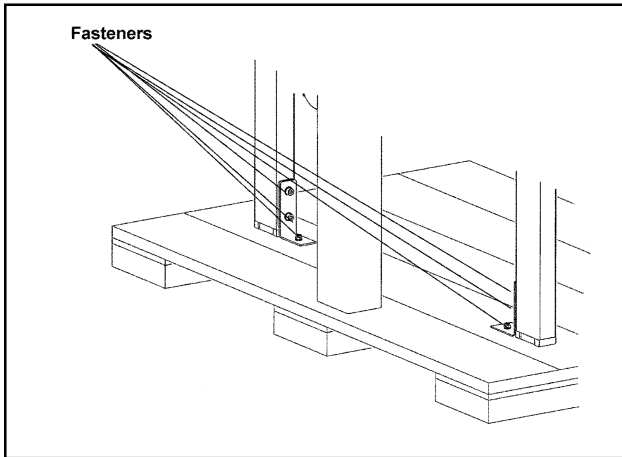

Figure 2-3—Remove Fasteners
- Using a 10 mm combination wrench, remove the fasteners that secure each of the case sealer legs to the pallet as shown in Figure 2-3.